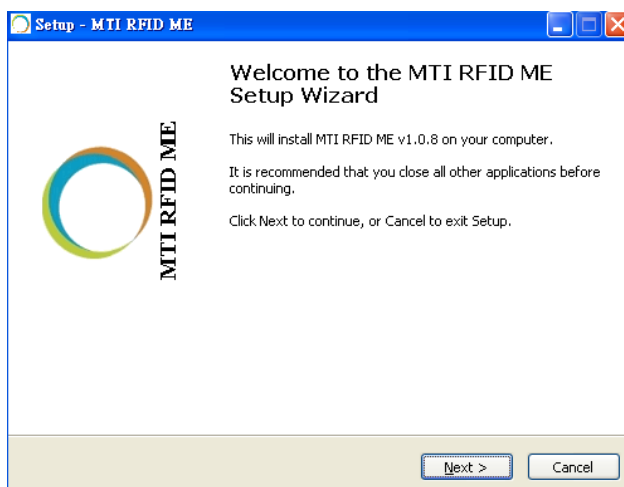

Figure 1
2.1.1. Double-click “MTI RFID ME.exe” in the installation disk, then click “Next” to continue the installation, or click “Cancel” to exit the setup as shown in Figure 1.